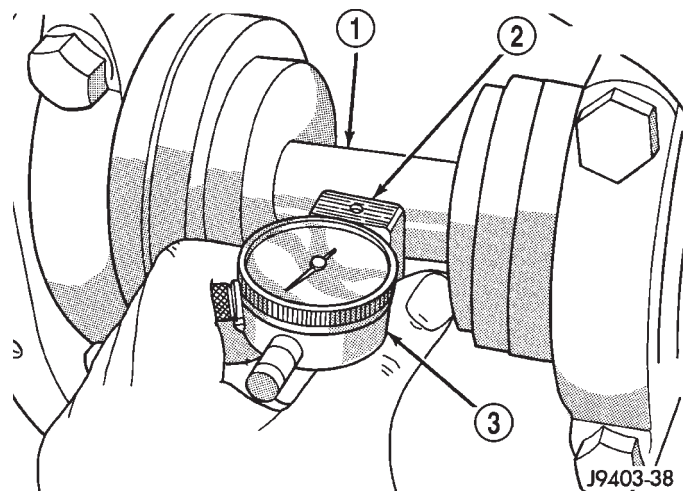

Fig. 82 Pinion Gear Depth Measurement—Typical
(7) With scooter block still in position against the pinion height block, slowly slide the dial indicator probe over the edge of the pinion height block.
(8) Slide the dial indicator probe across the gap between the pinion height block and the arbor bar with the scooter block against the pinion height block (Fig. 82). When the dial probe contacts the arbor bar, the dial pointer will turn clockwise. Bring dial pointer back to zero against the arbor bar, do not turn dial face. Continue moving the dial probe to the crest of the arbor bar and record the highest reading.